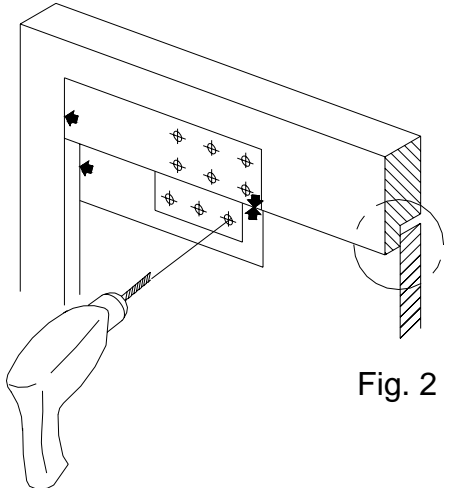

Fig. 2
3. Determine the power size of door closer required. Drill pilot holes in door & frame according to template. Remove slide plate and fix door closer body with screws supplied, ensuring correct fitting holes are used **(See Figs. 2 & 3)**